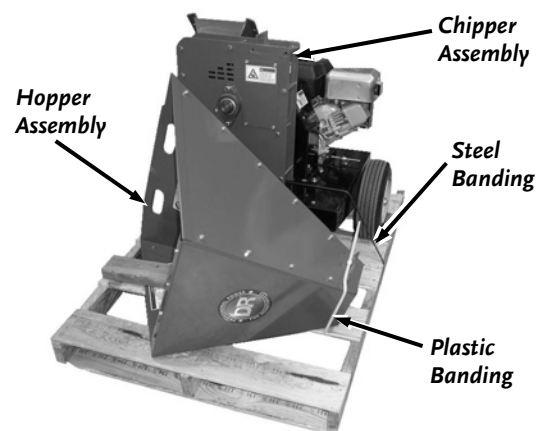

Figure 6
5. Carefully cut the Steel banding holding the machine to the pallet and the Plastic Banding holding the Hopper Assembly to the Pallet (*Figure 6*).